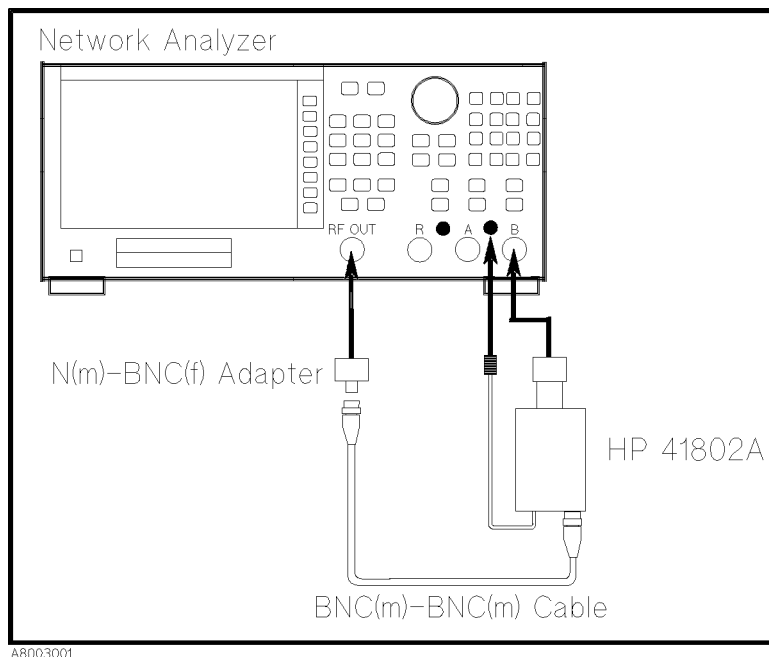

Figure 3-1. Operating Check Setup Using 8751A or 3577A/B Network Analyzer
1. Connect the equipment as shown in Figure 3-1. Note that the probe power plug must be connected before connecting the 41802A's N-type connector.